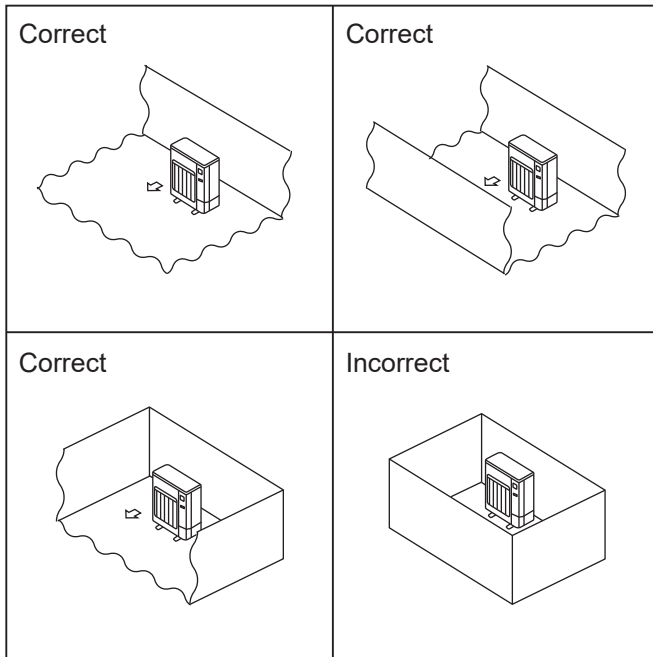

Fig. 2-2
- Ⓢ Install outdoor units in a place where at least one of the four sides is open, and in a sufficiently large space without depressions. (Fig. 2-2)